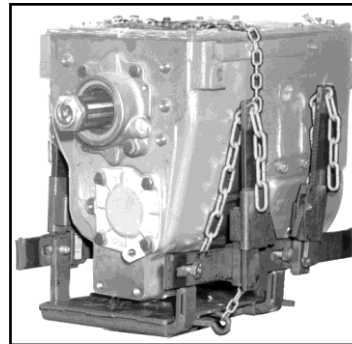

Fig. 25: Drive shaft removal example
The photographs which follow illustrate commercial driveline components being supported by various adapter kit assembly configurations. Use Configuration 5 (Fig. 25 and 35) to support drive shaft during removal and installation. Transmission brackets (3) should be adjusted inwardly so the upper tips of adjustable vertical supports (5) come into physical contact with the drive shaft being supported by chain slings (7).